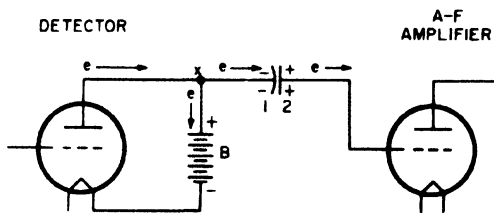

Fig. 17-9. Diagram showing how a fixed capacitor is used to couple the amplifier tube to the detector.
**Method.** There is another method used to couple one tube with another. A fixed capacitor is inserted between the plate of the detector tube and the grid of the amplifier tube (Fig. 17-9).